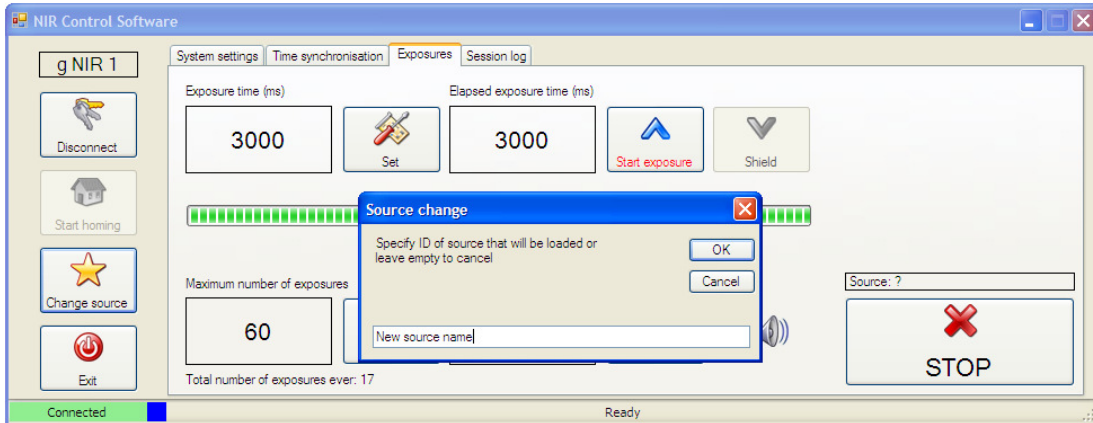

Figure 27: The NIR Control Software asks for the ID of the new source.
- The software will ask for the ID of the new source. This ID will be written to the log file. Click "Cancel" to cancel the procedure or click "OK" to confirm (Figure 27). After clicking "OK", the radiation exposure indicator will go on and the source holder will slowly move out the shield. After that, the irradiator will be brought to the safe standstill state. On the control panel, all three indicators will be on.